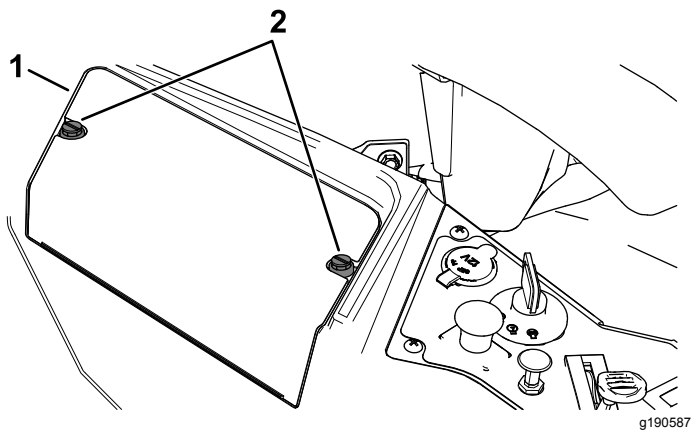

Figure 56
3. Loosen the 2 fasteners on the battery cover counterclockwise 1/4 turn, and remove the battery cover (Figure 56).
6. Install the battery cover by pushing down and tightening the 2 fasteners clockwise (Figure 56).